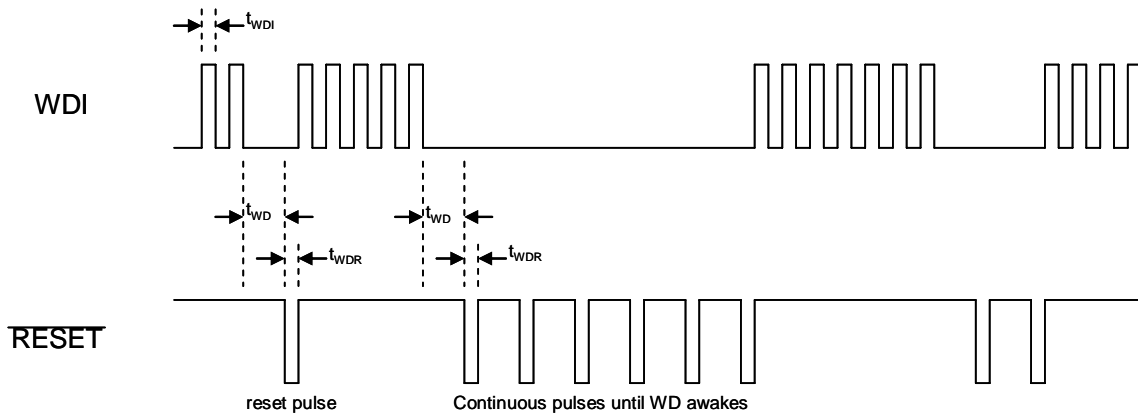

Figure 12. Standard Watchdog – Pulsing Reset Until Watchdog Awakes.
provides a Standard or Advance Watchdog monitoring function. In the defaulted Standard Watchdog mode, if WDI remains either high or low for longer than the timeout period, a reset pulse is generated in an attempt to allow the system processor to re-establish the WDI signal. The reset pulses continue indefinitely until a valid watchdog signal, a rising or falling edge signal at the WDI, is received. The internal watchdog timer clears whenever reset is asserted. The Standard WDI and RESET timing diagrams are shown in Figure 12.
5. When the external monitoring processor cannot issue the necessary WDI signal, Figures 12 and 13.